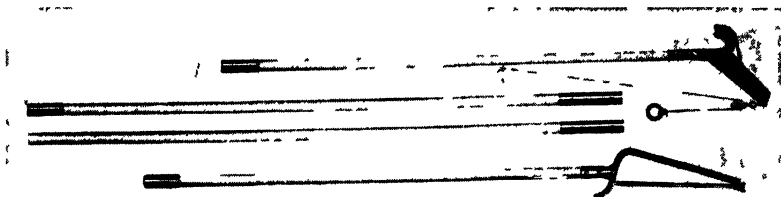
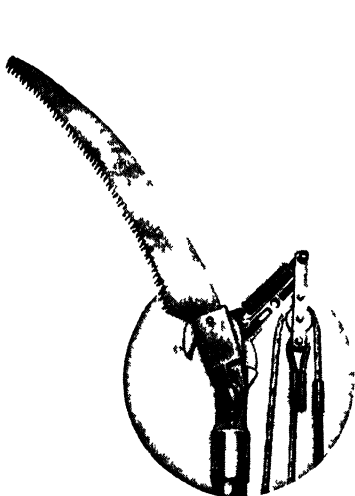

FIG 28-1 Typical tree-trimming tools. View shows saw, hook with knife spring, and extension handles. (Courtesy Leach Co.)
FIG 28-2 Close-up of tree-trimming head showing saw and hook with knife spring. (Courtesy A. B. Chance Co.)
- One pole pruner with 12- to 14-ft handle (Fig. 28-1 and Fig. 28-2) and several hand lines, bull rope, and tackle.